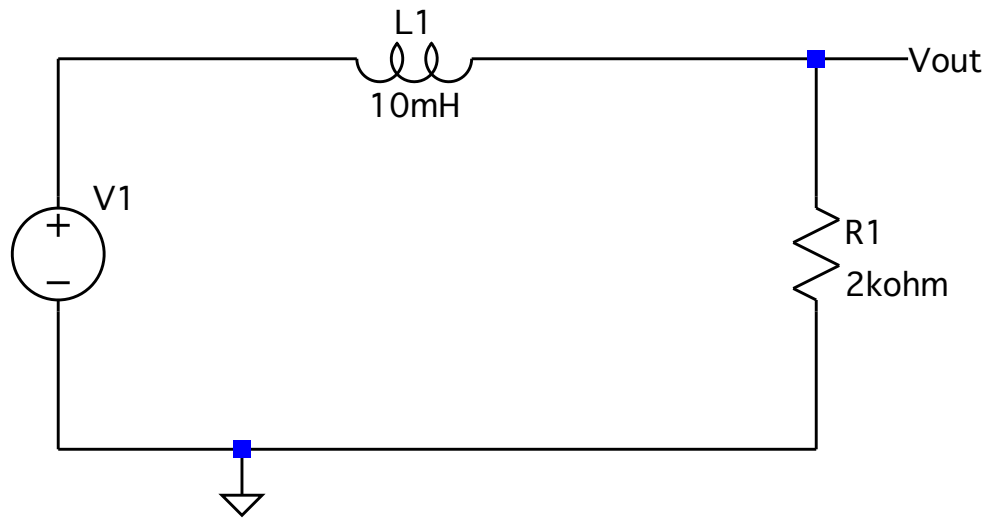

Figure 5 RL Low Pass Filter Clrcuit
- Construct the filter shown in Figure 5. How should you adjust the form of Step 3 in the prelab section to account for the replacement of a capacitor with an inductor?⁴ Use the modified form to solve for the half-power frequency. Don't forget to include the resistance of the inductor that you measured before starting the lab procedure.